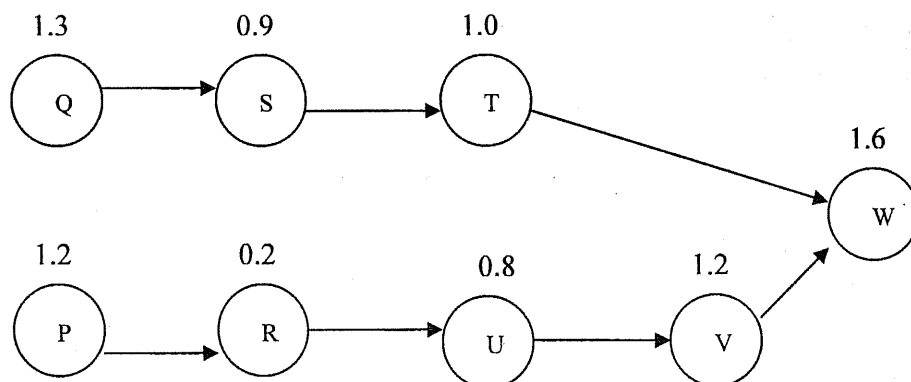

Fig. Q4
- b) Assembly operation of a product consists of eight elemental tasks and the relevant preceding relationship diagram is shown in fig. Q4. Standard times for each task are shown in minutes.